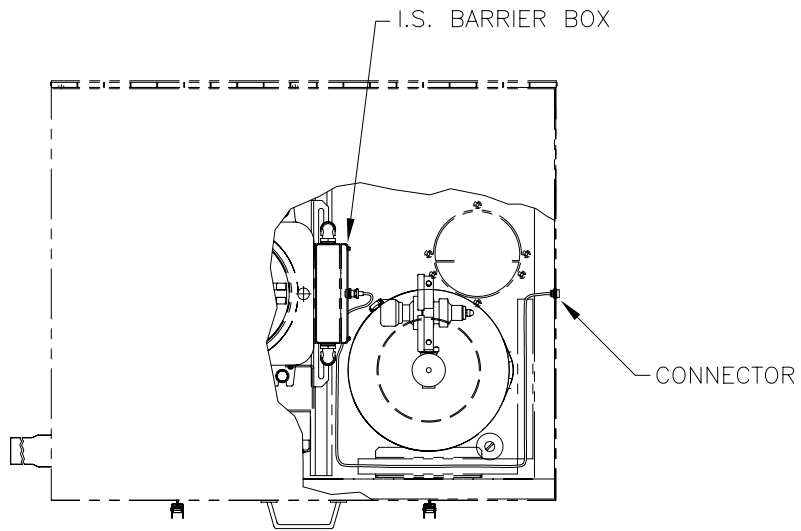

Figure 51 External PCCU Cable Option Installed
- 6) Run remainder of cable around the front interior and down along the side of the center track (see Figure 51).